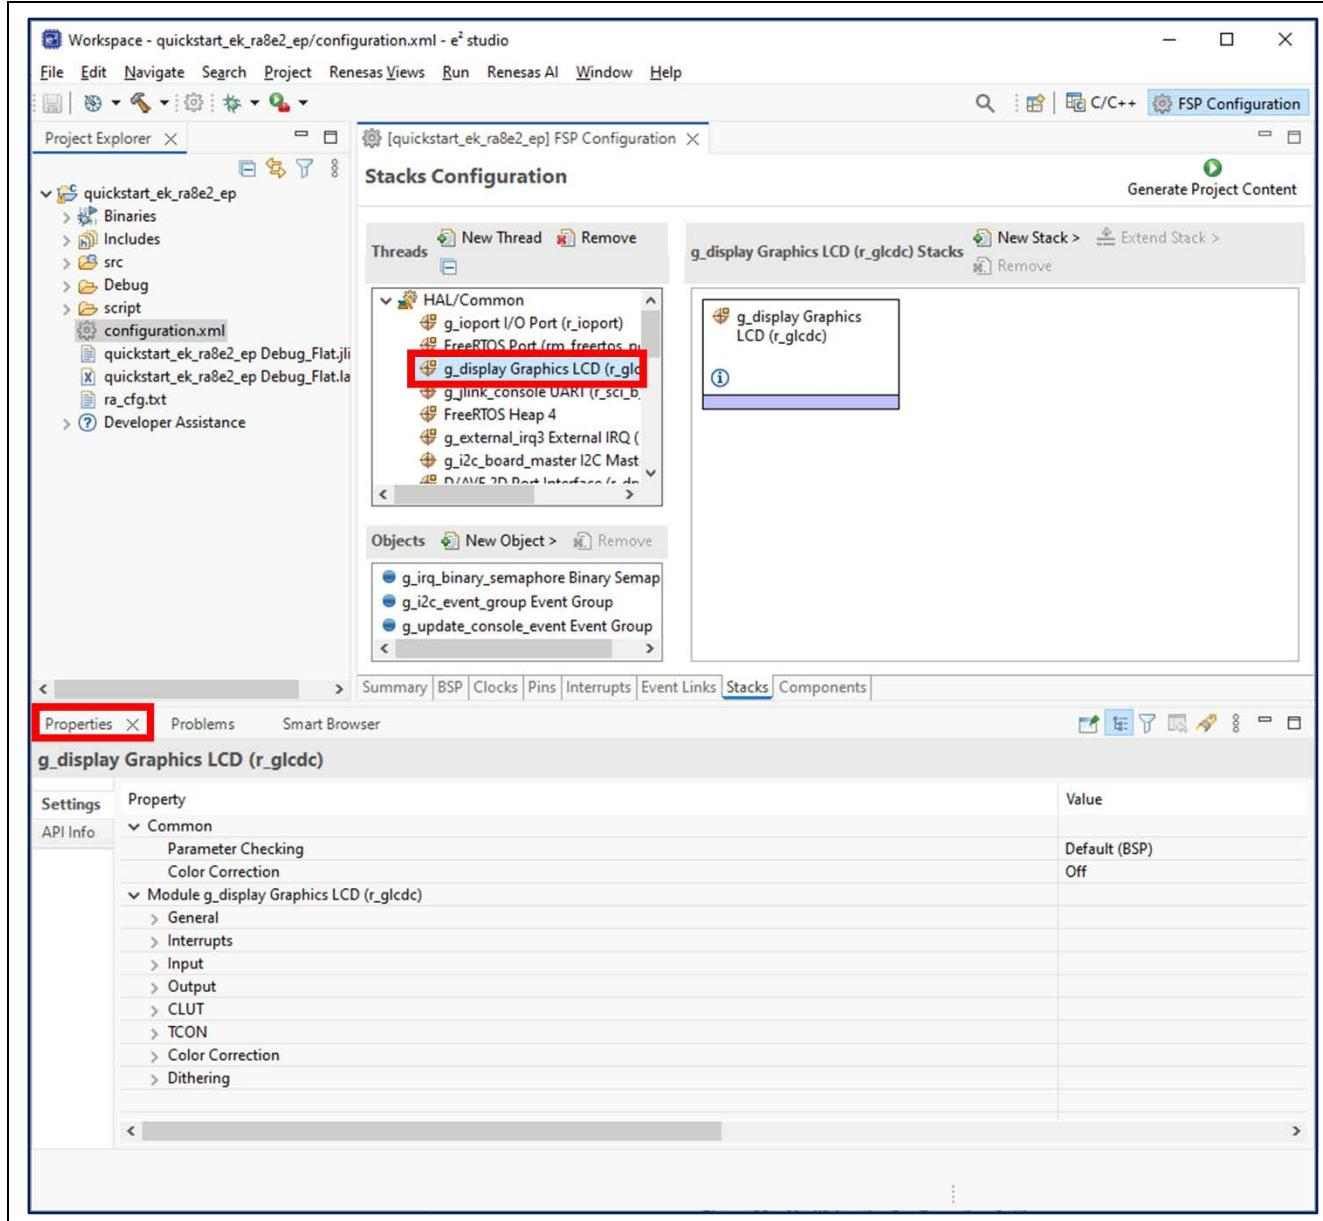

Figure 33. Modifying the Configuration Settings
- For example, in the **Stacks** tab of the FSP configuration, the user can click to select modules to modify the configuration settings, as required, in the **Properties** tab. Figure 33 illustrates modifying the **Display Graphics** configuration.